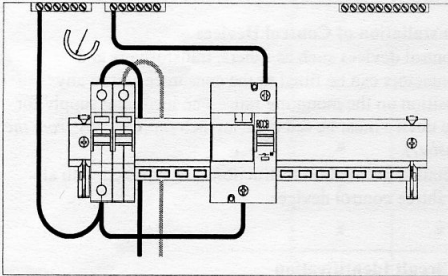

Fig 5.2
2 connectors are supplied with all split-load busbars for RCCB connection. (See Fig 5.2)
- Units with 2 neutral bars (Fig 5.2)** Remove the solid neutral links from between the neutral bars.
- Connect the neutral cables supplied with the split-load busbar to the appropriate terminals as shown. (Fig 5.2 or 5.3)